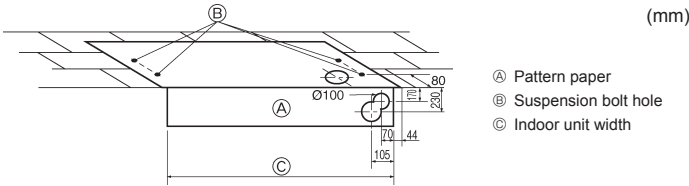

Fig. 3-3
3) Selection of suspension bolts and piping positions (Fig. 3-3)